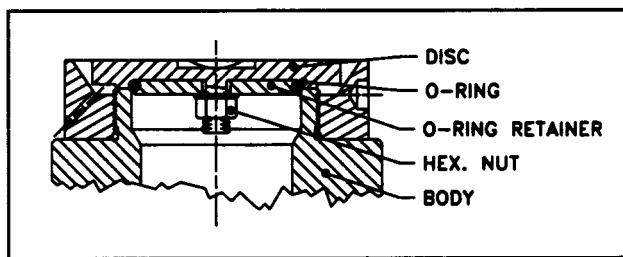

Fig. 5.1 2850 Series O-Ring Seat Construction
4. (O-ring Seat Only) Refer to Fig. 5.1. Position the disc on a flat surface with the O-ring groove facing up. Insert O-ring into the disc groove. Insert the O-ring retainer on the disc, ensuring the O-ring is centered. Lock the O-ring and retainer to the disk with the hex nut.